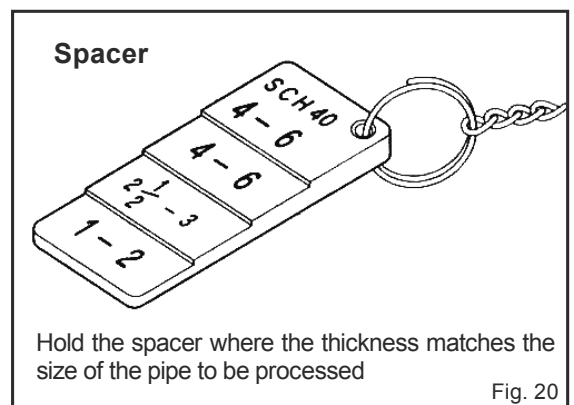

Fig. 20
- * Hold the spacer where the thickness matches the size of the pipe to be processed. (Fig. 20)